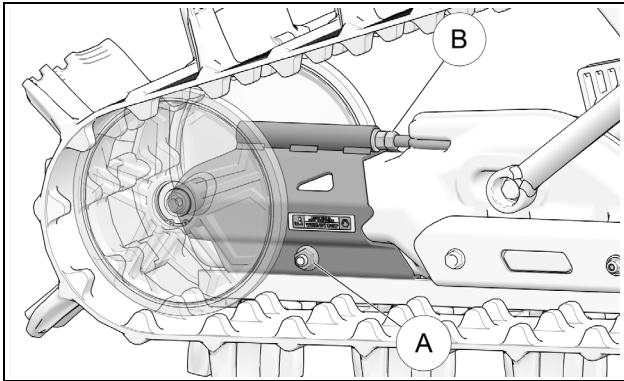

Figure 19
CAUTION: Track Tensioner assembly bolt (A) and jam nut (B) must be loosened before adjusting track tension. Figure 19.